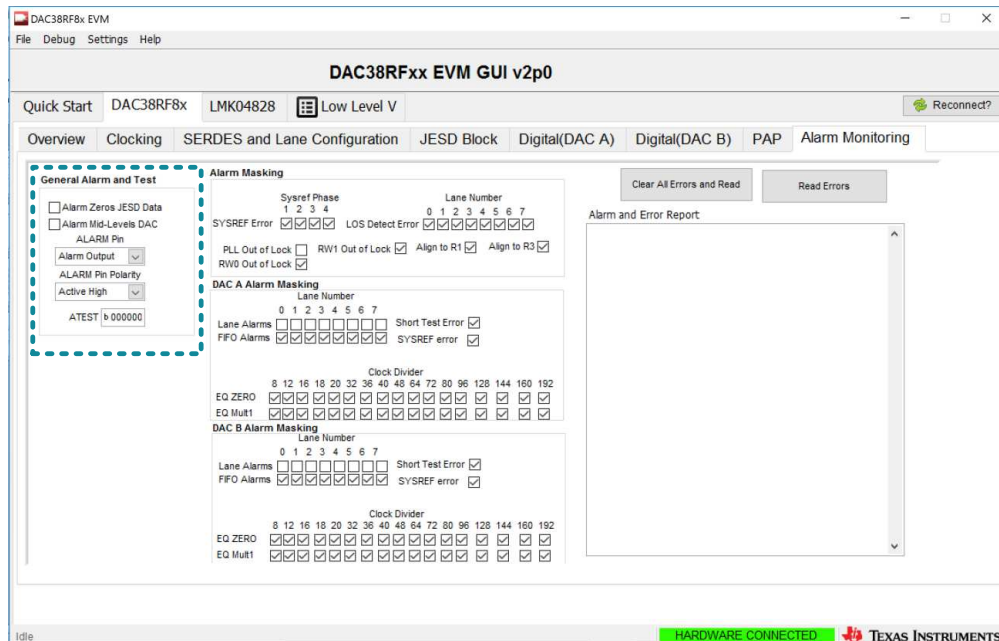

Figure 4. DAC38RF8x EVM GUI Alarm Monitoring Tab
- Step 6. Select the *Alarm Monitoring* sub-tab (see Figure 4). In the *General Alarm and Test* section, select *Alarm Output* in the *ALARM Pin* drop-down menu. Select the *ALARM Pin Polarity* field to be either *Active High* or *Active Low*. Active high causes the alarm pin voltage to be set high if a PRBS error occurs.